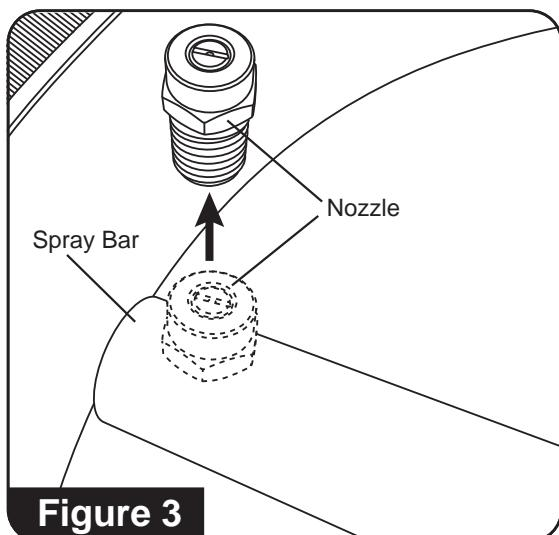

Figure 3
3. Using a 14mm wrench (not provided) remove both nozzles from the spray bar. (**See Figure 3**)